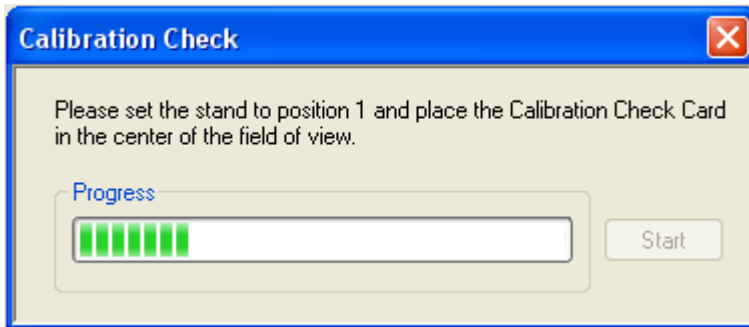

Figure 3-6
1. Go to the **Tools** pull down menu, select **Calibration Check**, the **Calibration Check** window is displayed (Figure 3-6).